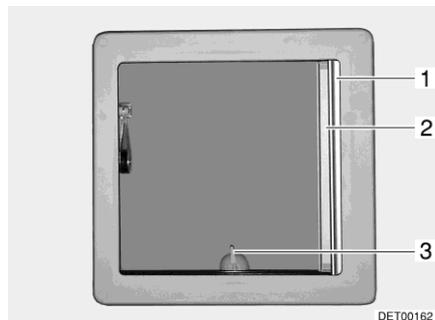
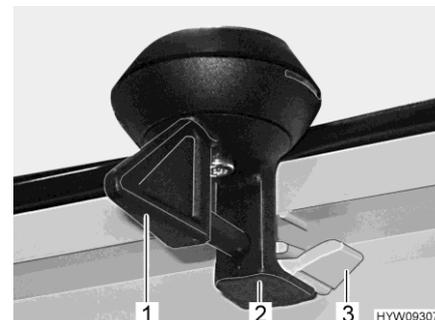

Fig. 45 Hinged skylight
Fig. 46 Lock (hinged skylight)
- Turn the lever (Fig. 45,3 or Fig. 46,1) one quarter turn.
- Turn the lever one quarter turn. The lock (Fig. 46,2) must slide into the bottom catch (Fig. 46,3).
- Pull out Roman shade (Fig. 45,1) and release in the required position. The Roman shade will stay in that position.
- Pull insect screen (Fig. 45,2) out until it engages with the latch on the opposite side.